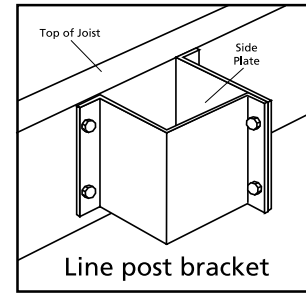
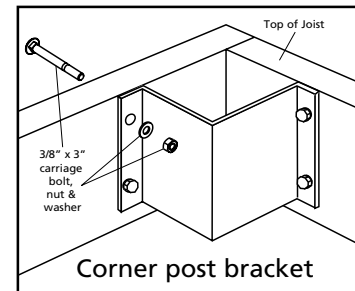

Figure 11
Figure 12
2. Position Joist Mount Bracket flush with top of framing at each post location (Fig. 11).
4. For corner posts, remove the side plate from the bracket (Fig. 11). Mark hole positions on framing (Fig. 12).